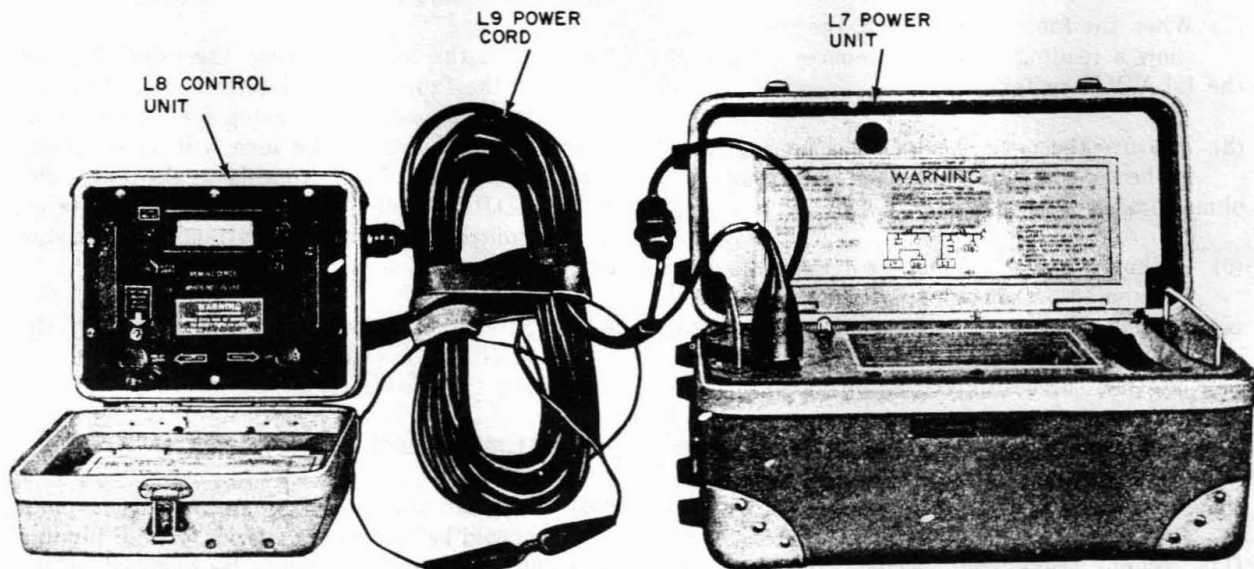

Fig. 17—Interconnecting L7 Power Unit With L8 Control Unit Using L9 Power Cord
9.02 Interconnect the L7 power unit with the L8 control unit using the L9 power cord (Fig. 17) and short the clips of the cord. Set the L8 FUNCTION switch to BREAKDOWN, the RANGE switch to 500V and depress both HI VOLT switches.